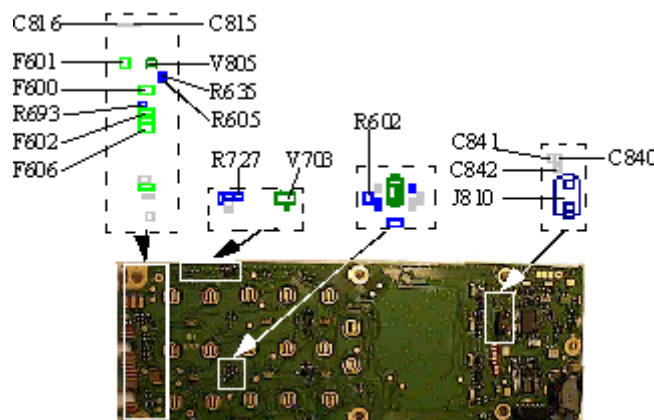
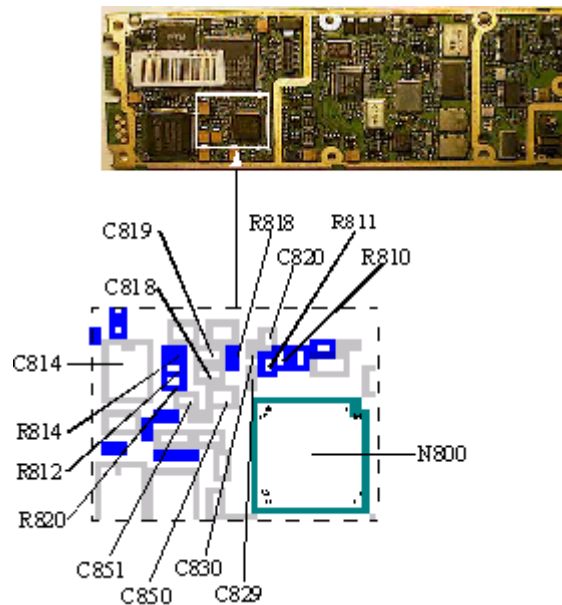
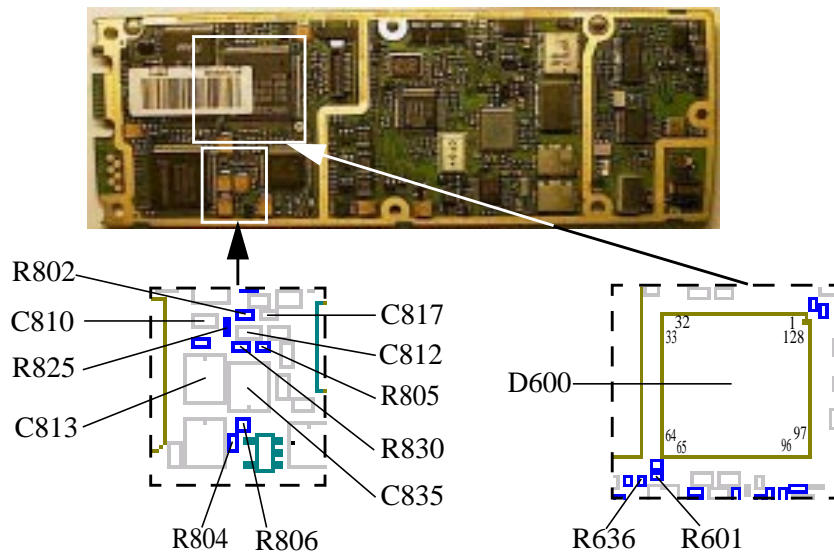
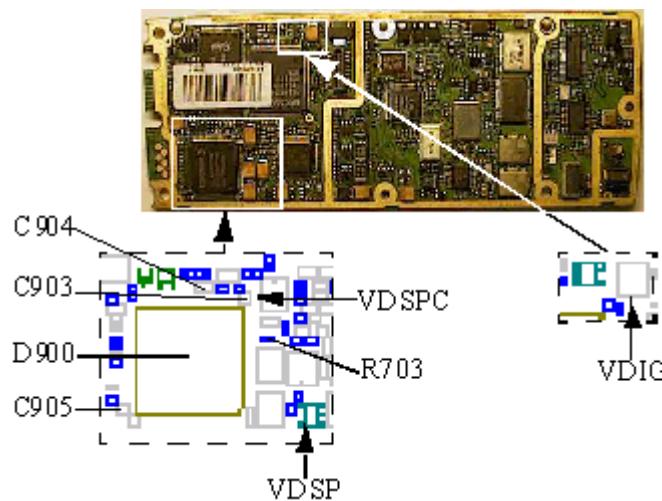

Fig. 4.1
Fig. 4.2
Fig. 4.4
Fig. 4.6
- If the fault remains, replace J810 (fig. 4.1, class A) and try again.
Check the solderings at N800 pins 24 and 26 (fig. 4.2).
- * If the resistance to ground is too low, replace C840 and C841 (both of them class A, fig. 4.1).
- * If the resistance from pin to pin is too low, replace C842 (class A, fig. 4.1).
If the fault remains, check the solderings at N800 pins 13-18 (fig. 4.2).
- If they're correct, measure the resistances of C850 (>100 kohms), C851 (>1 kohms), C829 (>100 kohms), C830 (>100 kohms), C818 (>100 kohms) and C819 (>100 kohms, all of class A and in fig. 4.2). Measure the resistance of C815 (fig. 4.1, >50 kohms).
* If it's less, replace C815 and C816 (both of class A and in fig. 4.1).
Measure the resistance of R818 (fig. 4.2, >10 kohms).
- If it's less, replace R818 and C820 (both of class A, fig. 4.2).
Measure the resistance of R810 (~0 ohms), R811 (~0 ohms), R812 (~1.5 kohms), R814 (~470 ohms) and R820 (1.5 kohms, all of class A and in fig. 4.2).
- If the resistance of R820 is too low even after it has been replaced, replace V805 (class A, fig. 4.1).
Measure the resistance of C814 (>100 kohms, class A, fig. 4.2).
Check the soldering at N800 pin 22 (fig. 4.2).
Measure the resistance of R804 (fig. 4.4, >50 kohms).
- If it's less, replace F601 (class A, fig. 4.1). If that doesn't help, replace R804 (class A, fig. 4.4).
Measure the resistances of R806 (~100 ohms, class A, fig. 4.4) and C813 (>100 kohms, class A, fig. 4.4).
Check the soldering at N800 pin 19 (fig. 4.2).
Measure the resistance of R825 (~3.3 kohms), R830 (~470 ohms), R802 (~3.9 kohms), R805 (15 kohms), C835 (>1 kohms), C817 (>100 kohms), C810 (>10 kohms) and C812 (>100 kohms, all of class A and in fig. 4.4).
Check the solderings at D600 pins 67 and 70 (fig. 4.4).
Measure the resistance of R635 (~22 kohms, fig. 4.1), R636 (~22 kohms, fig. 4.4), R601 (~1 kohms, fig. 4.4) and R605 (~1 kohms, fig. 4.1, all of class A).
If the fault remains, replace D600 (class B, fig. 4.4). If that doesn't help, send the phone to the next level.
- If it's less, replace F600 (class A, fig. 4.1).
- If it's less, replace F602 (class A, fig. 4.1).
Check the VDIG and VDSP voltages (~3.2V, fig. 4.6).
Check the VDSPC voltage (~2.5V, fig. 4.6).
* If the resistance is too low, replace components in the following order: C903 (fig. 4.6), C904 (fig. 4.6), C905 (fig. 4.6), R727 (fig. 4.1) and D900 (fig. 4.6, all of class A). Check the resistance from VDSPC to ground after every component replaced.
* If the resistance is correct, replace V703 (class A, fig. 4.1).
If all the feed voltages are correct, check the solderings of D600 (fig. 4.4), D900 (fig. 4.6) and N800 (fig. 4.2).
- If they're correct, replace D900 (class A, fig. 4.6). If that doesn't help, replace D600 (class B, fig. 4.4).
Check the soldering at D600 pin 69 (fig. 4.4).